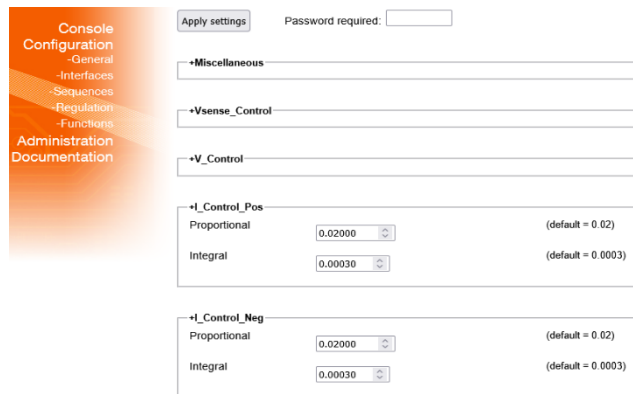

Figure 7.16: CC-control adjusting
- Adjust the setting of Proportional and Integral until a good result is achieved. See Figure 7.16.